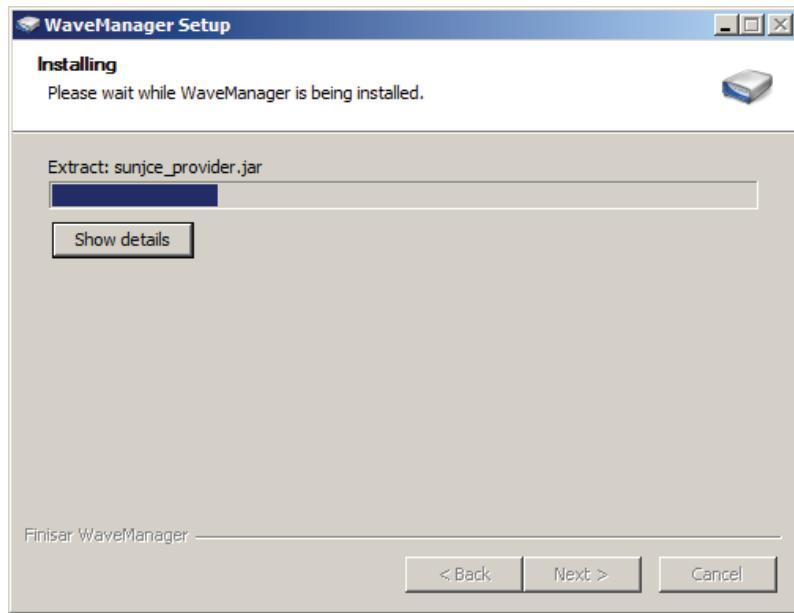

Figure 2.7 WaveManager Installation progress
6. The files will now be installed (Figure 2.7)